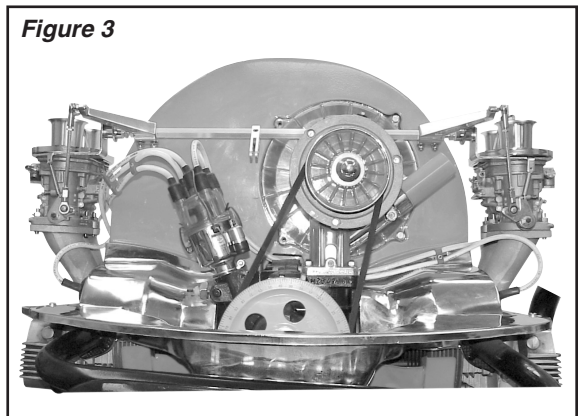

Figure 4
23. Install the linkage mount and air cleaner assembly (See Figure 4) (Leave off element and A/C top) on the left-side (Driver's Side) carburetor, using the lockwashers and nuts provided. (On some models stud removal may be necessary, go ahead and remove studs. Use M6 x 20 & M6 x 35 bolts and lockwashers that are supplied). **NOTE: DO NOT INSTALL THE RIGHT SIDE COMPONENTS AT THIS TIME. DUE TO THE LENGTH REQUIRED FOR THE HEX BAR TO SEAT PROPERLY IN THE BRACKET, THE RIGHT AND LEFT SIDE ASSEMBLY OF PARTS CANNOT BE DONE SIMULTANEOUSLY.**